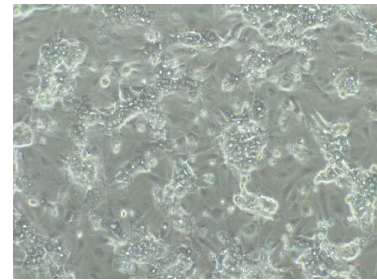

Figure 3
- 120–144 hours after plating, hepatocyte-like cells are organized in well-delineated trabeculae with many bright canaliculi-like structures (Figure 3).